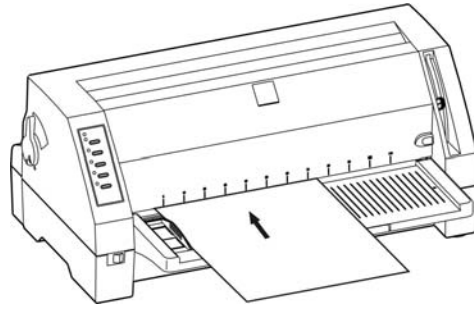

Figure 3-5 Loading cut sheet
6. Insert the paper as shown in Figure 3-5.